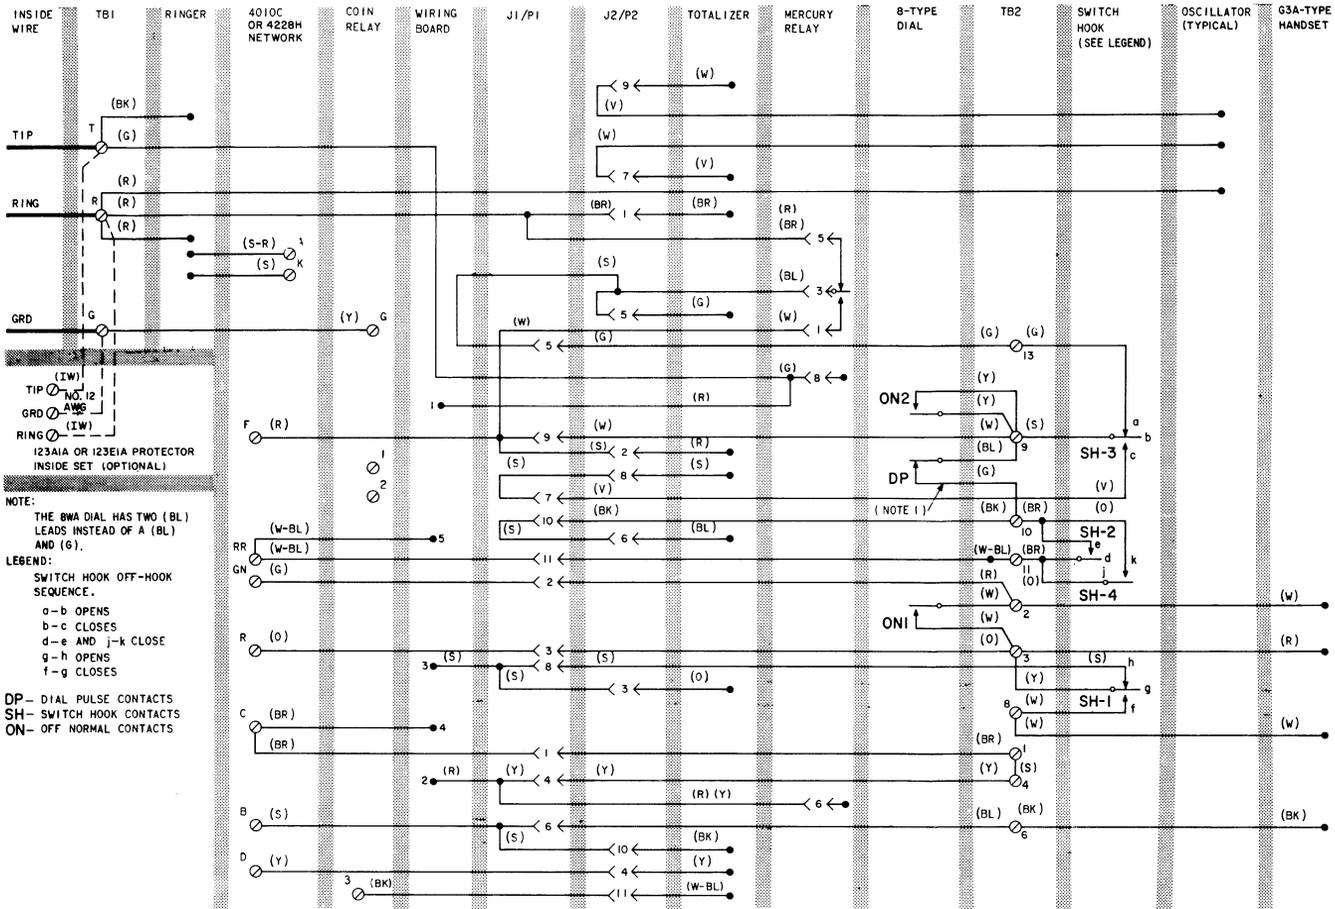

Fig. 64—1A1 of 2A1 Coin Telephone Set—Connections
9.01 Refer to Fig. 64 through 74 for connecting diagrams.